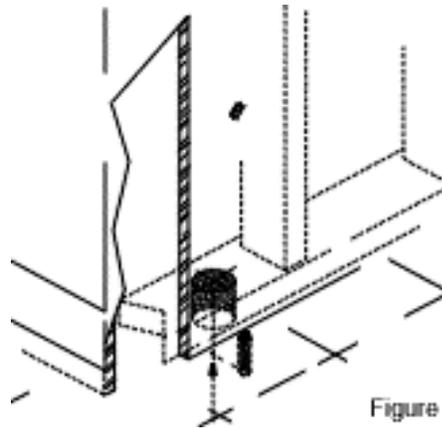

Figure 2
- Slide the rubber bumper on the power unit hanger rod. Position the bumper in the center of the rod so the canister will rest on the bumper. (Figure 2)
- Place the 2nd Stage Cloth Bag Filter, and the 1st Stage Paper Bag Filter in the Canister. Place the lid on the canister. (Figure 2)